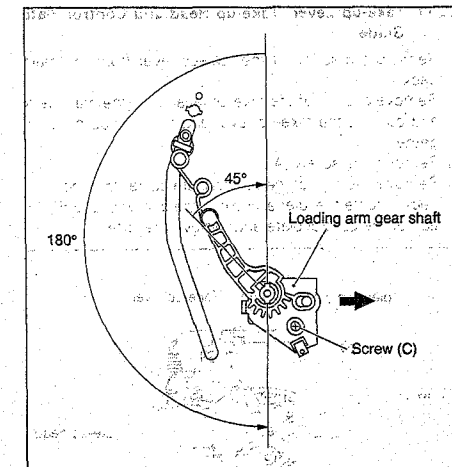

Fig. 2-2-27
- (3) Pull the spring out of the pole base. Turn the loading arm clockwise through about 45 degrees so that the notch of the loading arm is in alignment with the projection of the loading arm gear shaft and lift it. Likewise, turn the loading arm counterclockwise through 180 degrees so that the notch is in alignment with the projection and remove the loading arm (on the take-up side). (See Fig. 2-2-27).
- (4) When removing the loading arm gear shaft, be sure of first removing the screw retaining the drum assembly (on the back side of the loading arm gear shaft). Then remove one screw (C) and remove the loading arm gear shaft by sliding it in the arrow-indicated direction.